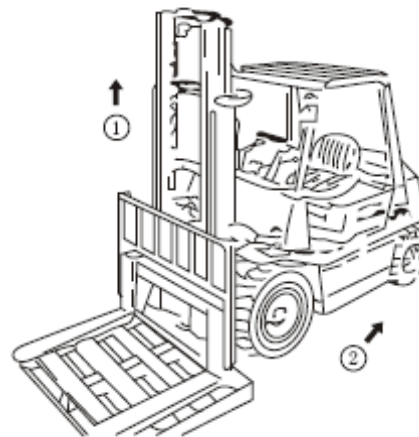

Fig. 6-7
- (1) Pick up a pallet and park the forklift truck on level ground.
- (2) Lower the forks and pallet to ground.
- (3) Remove the upper end connectors of the chains and take down the chains from the sprocket wheel.
- (4) Lift the inner mast (① in Fig. 6-7).
- (5) Reverse the forklift truck after confirming the fork carriage is separated from the outer mast (② in Fig. 6-7).
- (6) Replace the main contact roller.